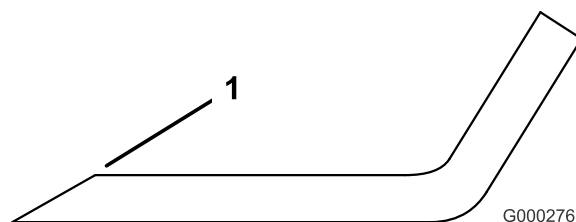

Figure 86
1. Use a file to sharpen the cutting edge at both ends of the blade (Figure 86). Maintain the original angle. The blade retains its balance if the same amount of material is removed from both cutting edges.